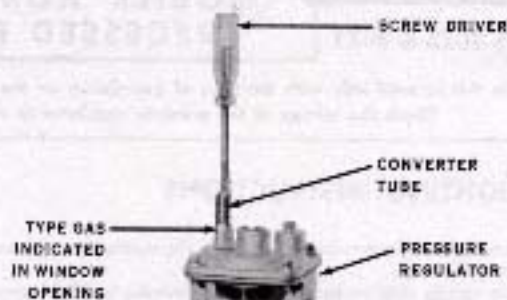

Fig. 4
3. Change pressure regulator. (Fig. 4)